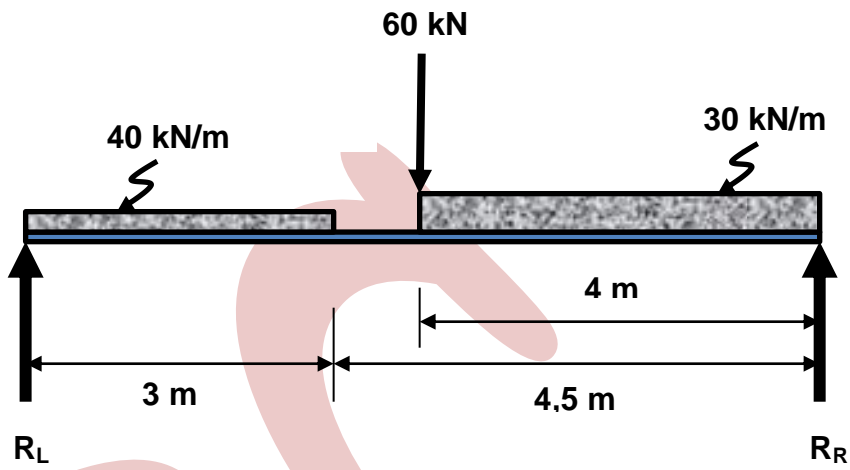

FIGURE 1
- 2.3 The beam shown in FIGURE 1, DIAGRAM SHEET 1 (attached) is held at equilibrium by the reactions  $R_L$  and  $R_R$ .